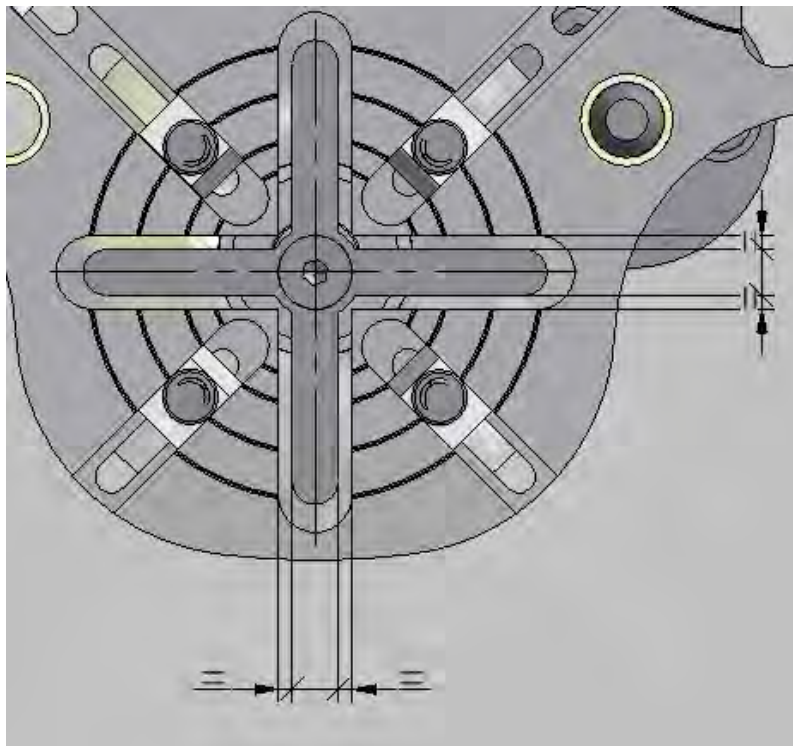

Fig.12
- 27.4. Set the draft shield (26) in relation to the weighing pan (22) so that clearance between the arms of the pan and reel milling was symmetrical. (Fig.12)
27.7. If there is such a need, undo six M3 screws (27) and set a draft shield respectively to a weighing pan as it is described in point 27.4. Keep repeating the action until complete rotation of the plate (37) is performed. Correctly set draft shield in relation to a weighing pan gives symmetrical clearance between arm of a pan and plate walls milling for each 90° turn of a plate, like in figure 12.